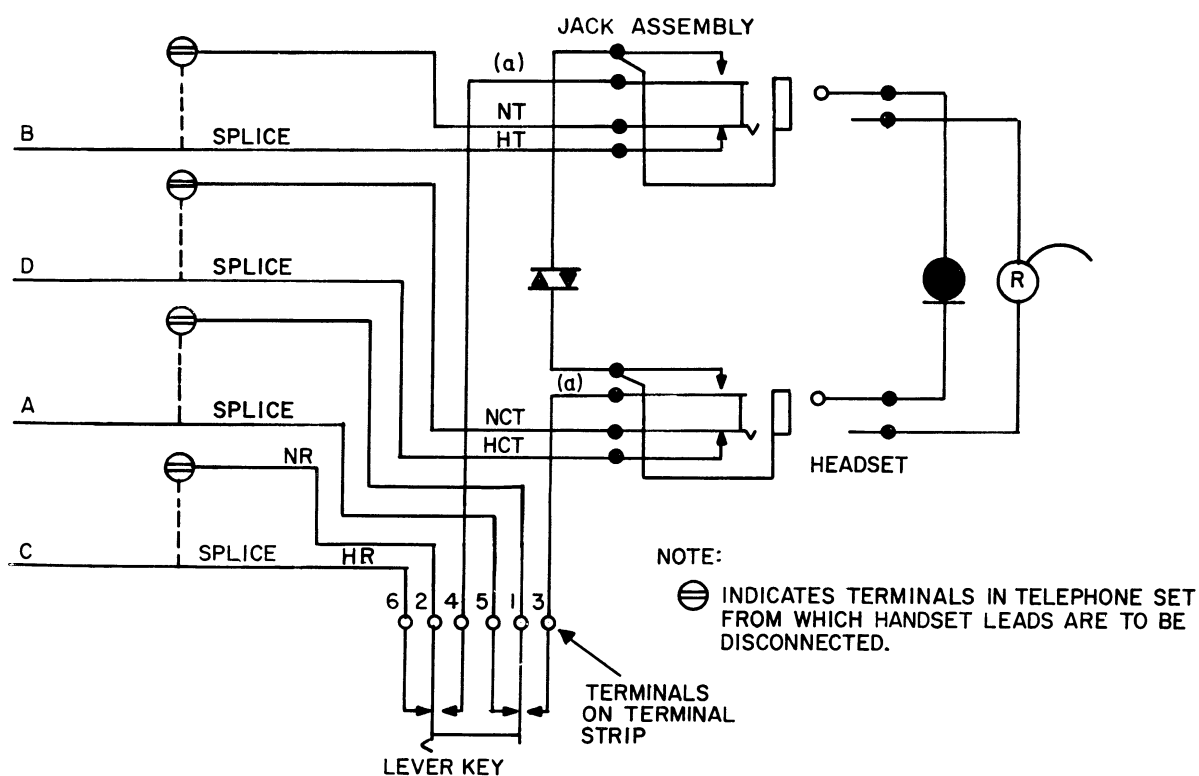

Figure 6. Schematic Diagram of Auxiliary Headset Installation on Touch Calling Telephones.
- (1) Install the Touch Calling telephone set according to the appropriate section of this division of General System Practices.
- (2) Determine the desired locations for the jack box and lever key.
- (3) Remove the cover from the lever key.
- (4) Using mounting hardware appropriate for the type of surface, mount the lever key.
- (5) Using station wire, attach the two (a) leads (Figure 6) to terminals 3 and 4 of the lever key. Leave these leads long enough to reach the jack terminals with the jack box mounted in its desired location.
- (6) Using 10-conductor, 26 AWG. stranded cordage, attach leads to the remaining terminals of the lever key, as shown in Figure 6. Leave the cordage long enough to reach to the associated telephone set when it is in its normal location. Leave some slack to facilitate moving the telephone about its area of location.
- (7) Remove the telephone set housing.
- (8) Terminate the free ends of the cordage leads in pressure-crimped spade lugs, and connect them to the associated telephone set according to Figure 6 and Table 2 (as appropriate).
NOTE: Wires A, B, C, and D, must first be disconnected from the telephone set circuitry as indicated in Table 2, before splicing them to the cordage leads as shown in Figure 6. The remaining cordage leads are then connected to the terminals thus vacated, as shown in Figure 6.
- (b) Connect leads (a), (a), from the lever key as shown in Figure 6.
- (c) Install the varistor and $50\ \Omega$, 5W resistor on the jack terminals as shown in Figure 6.